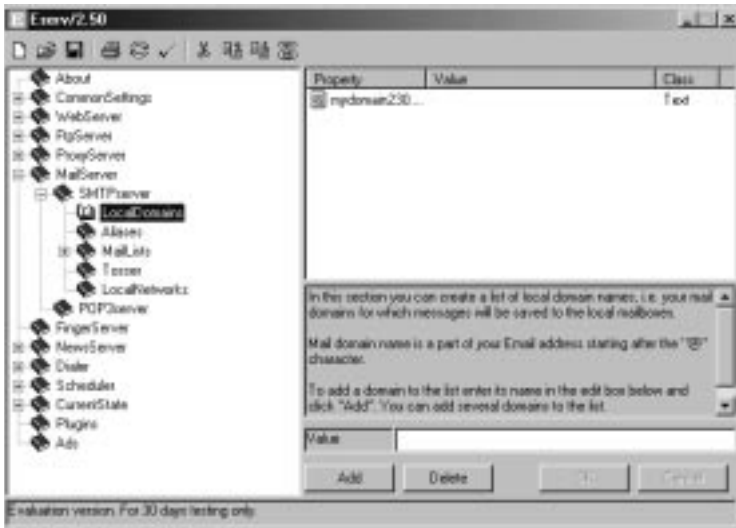

Figure 3-9. Eserv Application Window - Local Domains
1. The left side of the Eserv window has a list of purple books. Double-click MailServer, SMTPserver, and LocalDomains. The right side of the window lists the local domains that have been defined. See Figure 3-9.